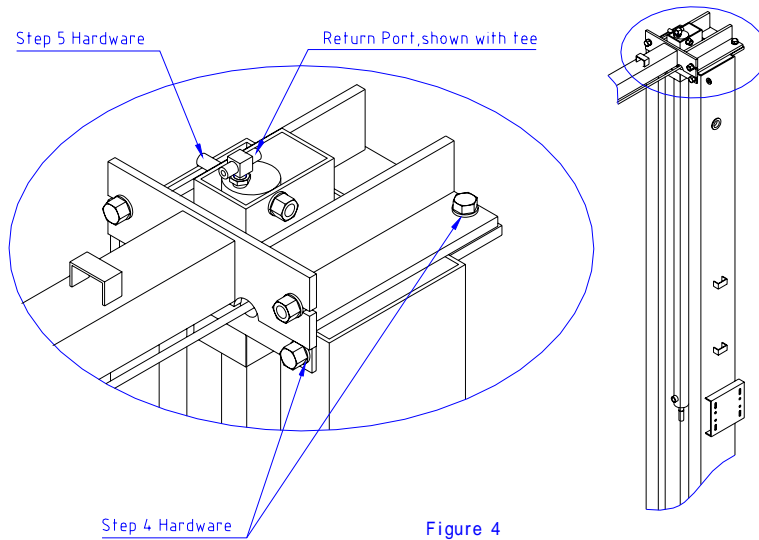

Figure 4
4. Attach the cylinder mount or uprights. Attach the cylinder mounts or uprights to the legs **using four 1/2" X 1-3/4" bolts, washers and nuts as shown in figure 4.**
- D. Install the cylinders to the uprights or cylinder mounts with **1/2" x 4-1/2" Grade 8 bolts, cylinder bushings (spacers), washers, and nyloc nuts, figure 4**. The port near the rod end of the cylinders should be positioned pointing to the leg's open side. High Rise cylinders must be attached to the alternate hole near the top of the upright.